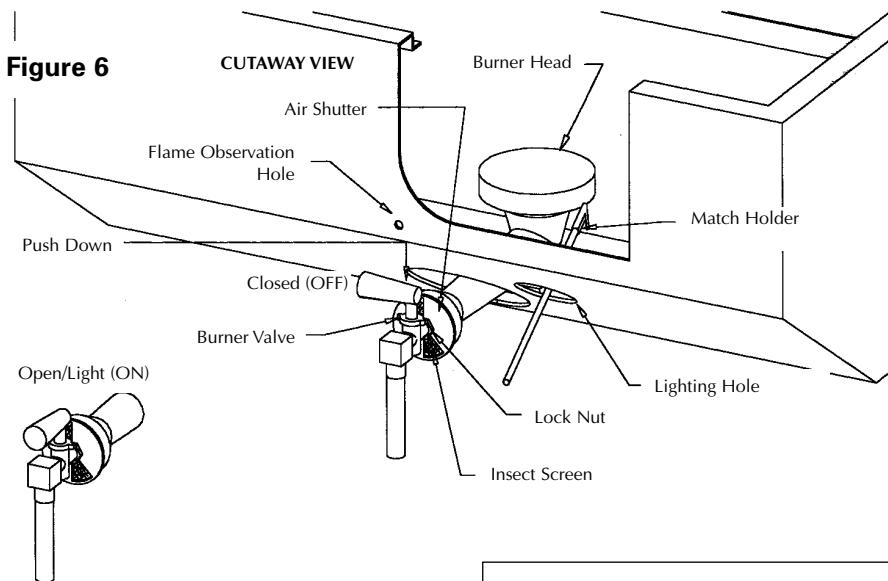

Figure 6
**AIR SHUTTER:** See Item 10 in lighting instructions (See figure 6 for details.)
**BURNER VALVE:** The burner valve is operated in only two positions. The Off position is when the handle is across (perpendicular to) the burner, which stops the flow of gas. When the valve has been set in the Off position, it is important to close the valve at the LP gas cylinder. The LP gas cylinder is the primary valve and must be closed when the grill is not in use. The On position is when the handle is in line with the burner (see figure 6 for details. See lighting instructions for more information.) The burner valve controls the heat allowed in the grill by means of a plug orifice. This device is set at the factory and must not be tampered with or replaced.
- 14. Check all bolts and nuts for tightness and go on to leak testing. (Soapy water test. See figure 6).
NOTE: The Holland Grill uses a 2-position gas valve on the burner control. The illustration (Figure 6) shows the handle in the OFF position. To turn ON push the handle to the right and outward in direction of the arrow (counter-clockwise) for its full travel (about 90 degrees). NEVER operate the Holland Grill with the handle in any intermediate position.
See Figure 6
8. With the left hand, open the burner valve by pushing the knob down and rotating it outwards (counter-clockwise) 90 degrees. See Figure 6.